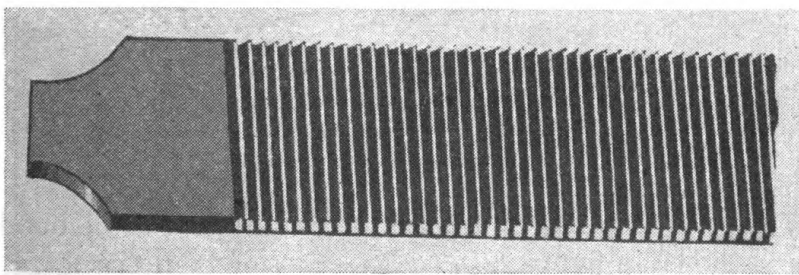

FIGURE 20.—Float cut file.
c. Selecting correct file.—(1) For heavy, rough cutting, a large coarse, double cut file is best.
(2) For finishing cuts, use a second cut or a smooth single cut file.
(3) When filing cast iron, start with a bastard cut file and finish with a second cut.
(4) When filing soft steel, start with a second cut file and finish with a smooth cut.
(5) When filing hard steel, start with a smooth cut file and finish with a dead smooth.
(6) When filing brass or bronze, start with a bastard cut file and finish with a second or smooth cut.
(7) When filing aluminum, lead, or babbitt metal, use a bastard file or, better still, a float cut file as shown in figure 20.